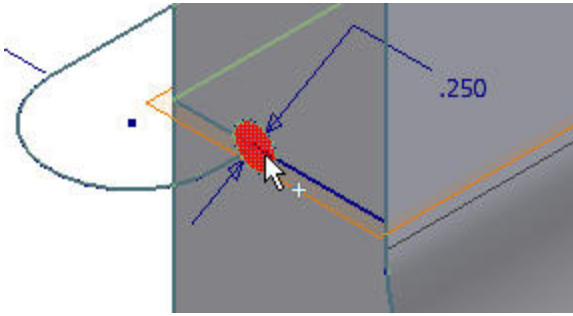
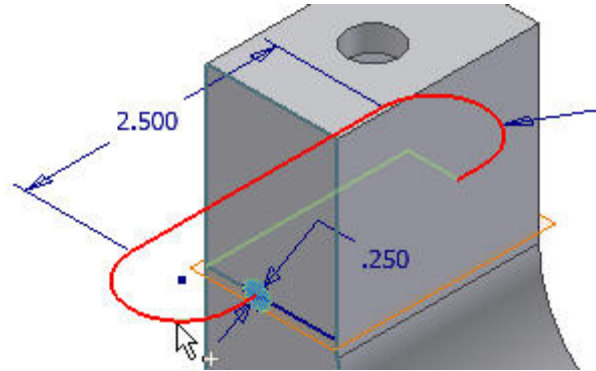

Figure 31
Figure 32
23. Select the circle that was just sketched as the Profile as shown in Figure 31. Next click on the button next to Path in the dialog box and click on the first sketch as shown in Figure 32 as the sweep path.